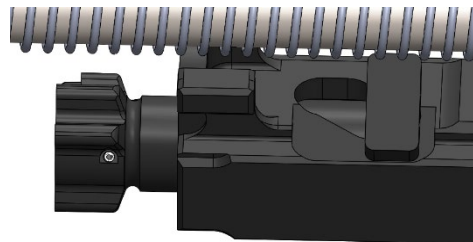

Figure 38: Bolt Head Closed
2. Rotate the bolt head to approximately the 1 o'clock position and insert the bolt guide pin, with the top plate of the pin parallel to the bolt carrier. (Figure 38)